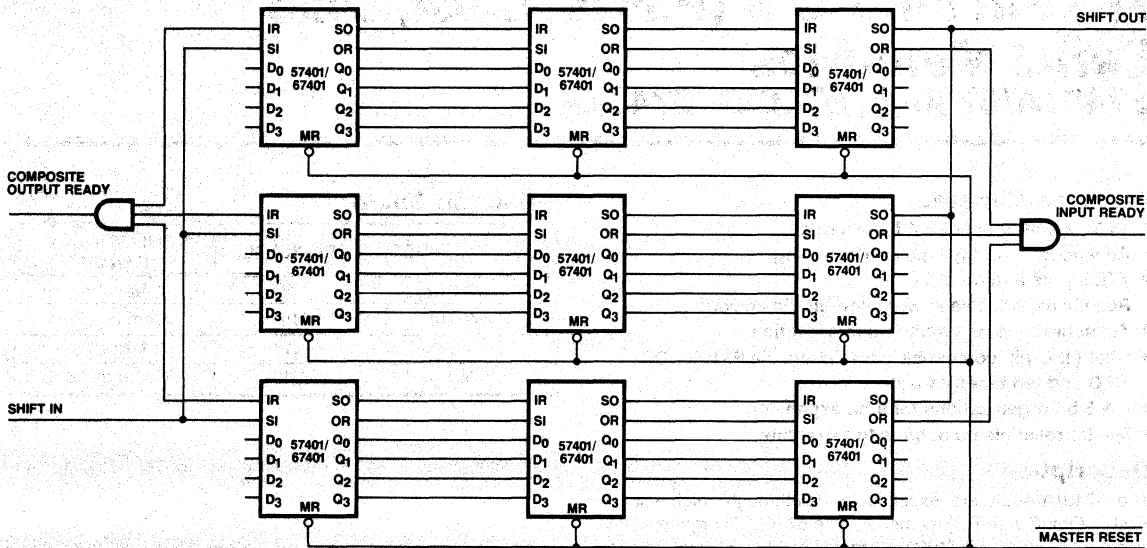

Figure 9. 192 x 12 FIFO—Unlatched Control Lines
Expansion of the FIFO to a longer word length is accomplished as shown in Figures 9 and 10. Careful attention must be paid to the generation of composite Input Ready and Output Ready signals. Because of device-to-device variation the Shift In (SI) to Input Ready (IR) delays will be different on the Input FIFOs. If a simple scheme such as shown in Figure 9 is used, then this variation must be allowed for, since composite Input Ready will go LOW as soon as the fastest IR goes LOW, but Shift In cannot go LOW until all three IRs for the input FIFOs are LOW. The user must provide sufficient delay to insure this.
Figure 9 shows one way to eliminate any potential timing problems. The gates and flip-flops are used to generate a Shift In or Shift Out pulse independent of the Shift In or Shift Out signal. The gating insures that Shift In does not go HIGH until all IRs are HIGH and does not go LOW until they are all LOW. The output gating operates in the same way. The only restriction on Shift In and Shift Out are that they must be long enough to clock the flip-flop and that they must occur after the composite Input Ready or Output Ready signal.